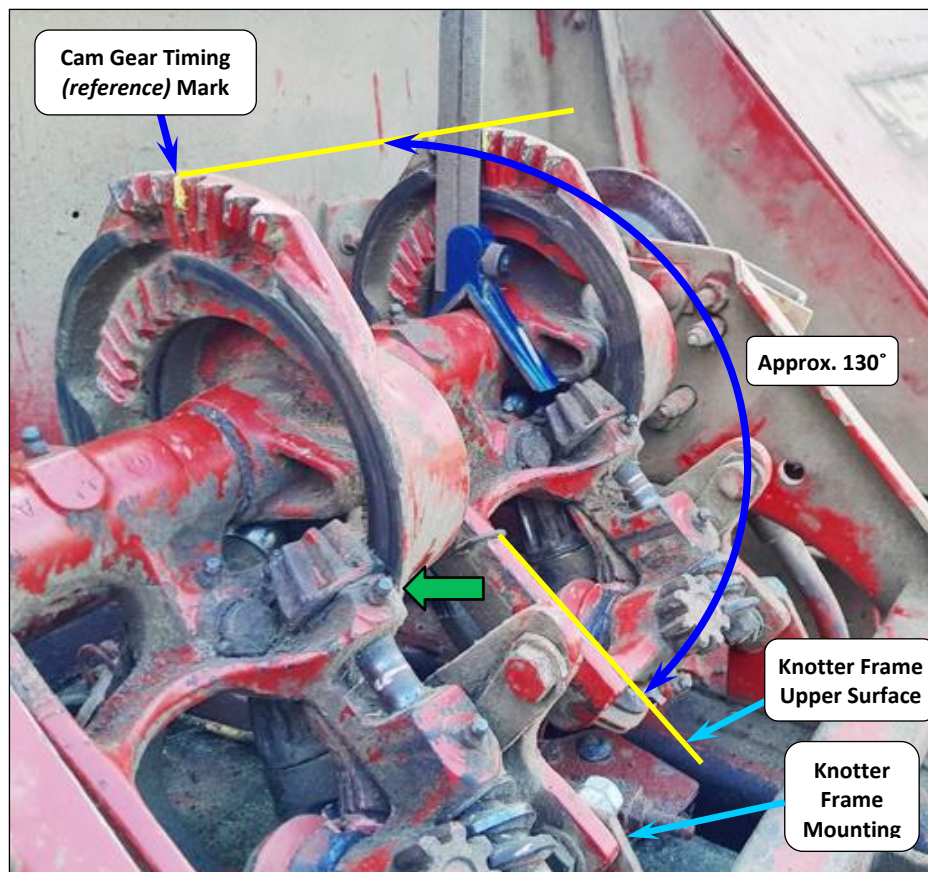

Fig.5.14 (New Holland) baler cam gear angular position relative to the knotter frames when 'at-rest'
- 1) BEFORE removing the Knotters from the donor baler,** mark the position of each Cam Gear relative to the Knotter Frame (*see Green arrows in Figs 5.14 & 5.15(a)*)
- Angle between the Timing Mark and the top of the Knotter Frame will be approx. 130 degrees (*Fig.5.14 & 5.15(a)*).
- Rotate the Knotter Frame around the shaft until it lies at an angle of approx. 130° from the timing mark (*see Fig. 5.14*)
- Mark the Cam Gear's position relative to the Knotter Frame (*Green arrow - Fig 5.14*)
- Proceed from Step (2) onwards (*as outlined on the previous page*)